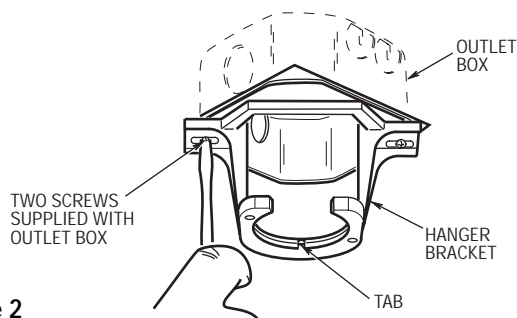
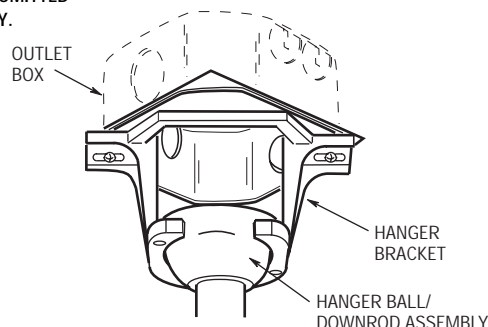

Figure 2
Figure 3
- Securely attach the hanger bracket to the outlet box using the two screws supplied with the outlet box. (Figure 2).
- Carefully lift the fan and seat the hanger ball/downrod assembly on the hanger bracket that was just attached to the outlet box (Figure 3). Be sure the groove in the ball is lined up with tab on the hanger bracket (Figure 2).